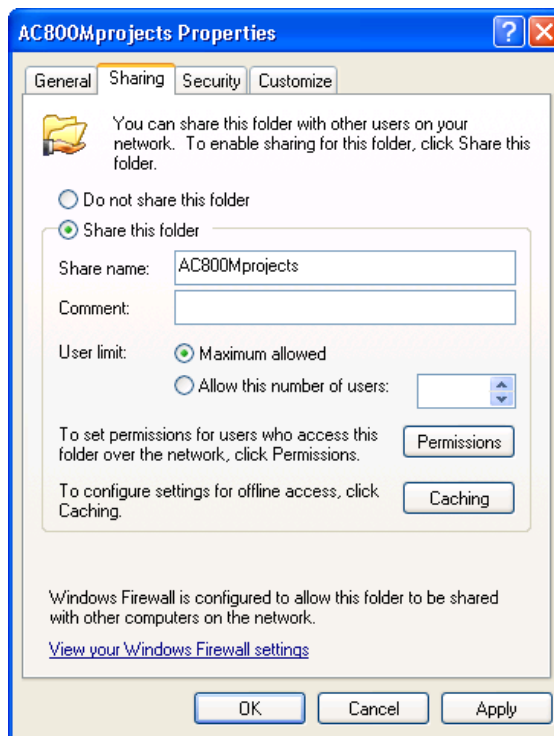

Figure 68. Property dialog with the Sharing tab active.
4. Select the **Sharing** tab and click **Share this folder** radio button. Locate the settings from the Properties dialog in Figure 68.